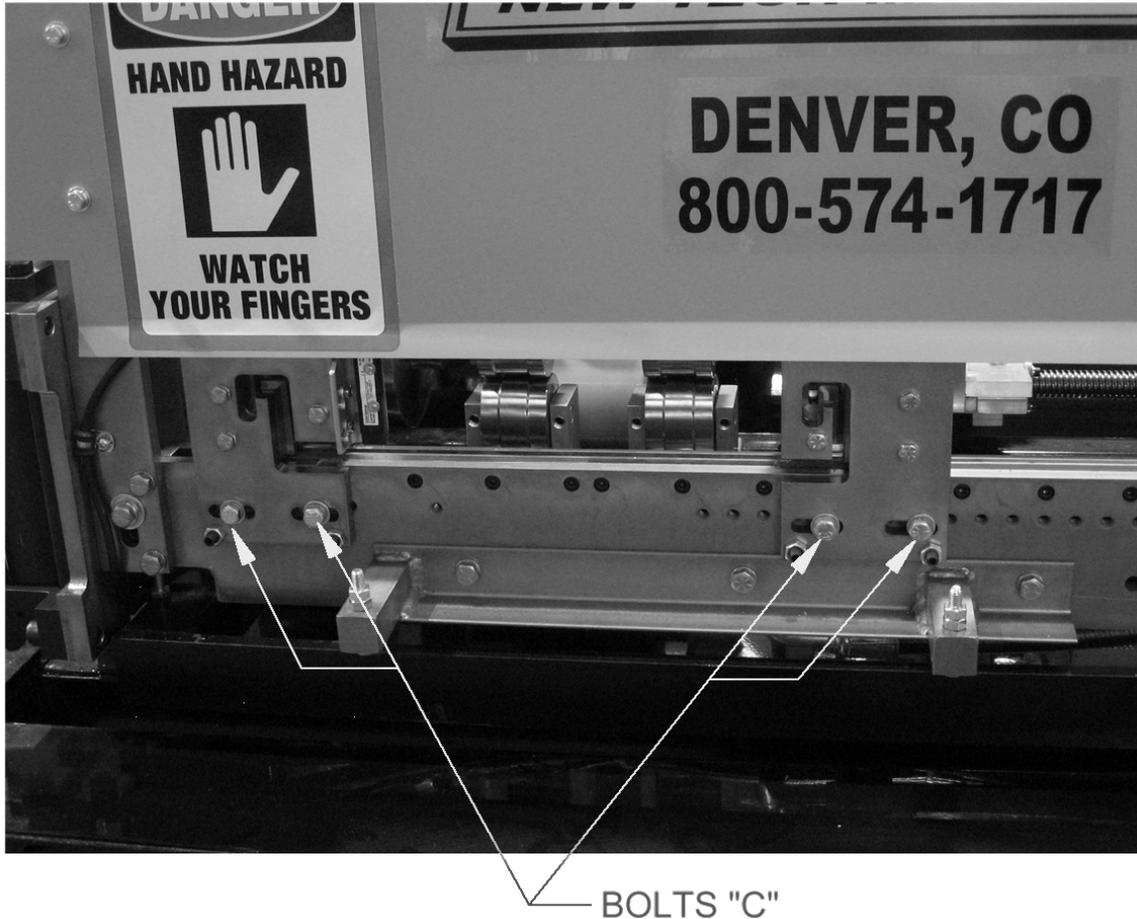

Figure 61: Remove Shear Bolts
23. Remove the two “C” bolts on the exit male and female shear die assemblies located in the slotted holes at the bottom edge of the die holder (Figure 61). Store the shear dies with the profile just removed and set the bolts aside for use when installing the new shear dies.